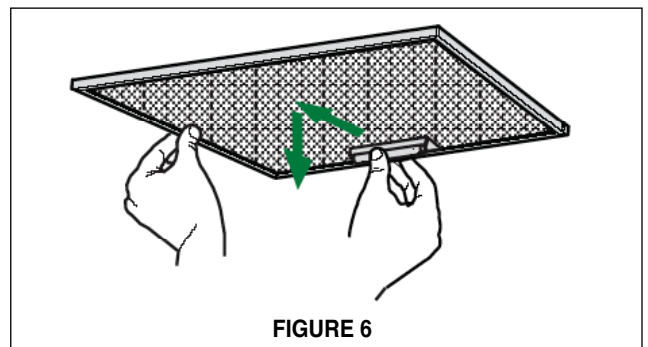

FIGURE 6
2. Using two hands, remove the grease filters one at a time by pushing the filter forward and pulling the handle down. (**FIGURE 6**)
1. Install the grease filters (as indicated in **FIGURE 6**)